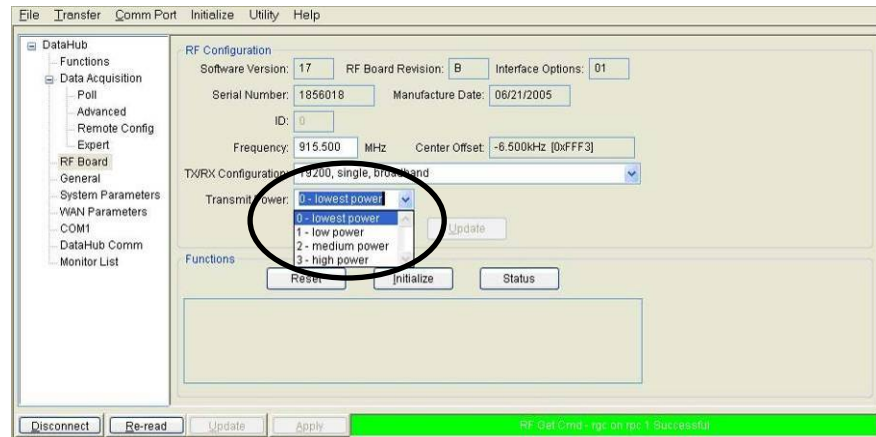

Fig. 8.16: Transmit Power Setting
- 8.8.1 To increase the RF Transmit Power, click on **RF Board**. Review the current **Transmit Power** setting. There are four Transmit Power settings, 0 - lowest, 1 - low power, 2 - medium power and 3 - high power. Fig. 8.16